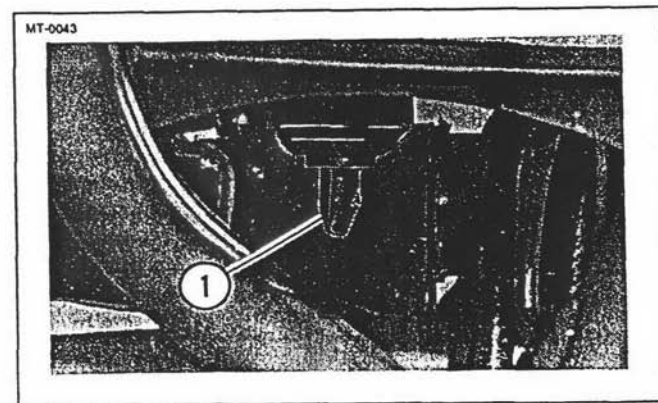

Figure 5-4. Airbox Drain Valve
- (A) Remove element.
- (B) See Figure 5-4. Squeeze lips of airbox water drain valve (1) to allow accumulated water to drain from airbox.
- (C) Clean and dry airbox with clean rags. Use low pressure compressed air (60 lbs or less), if available, to dry airbox.